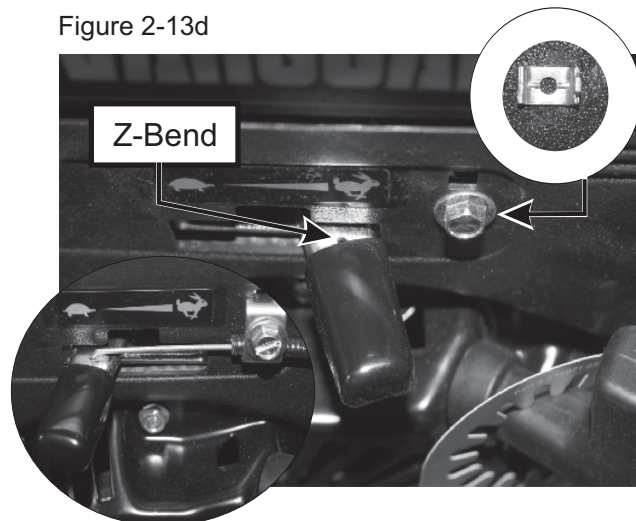

Figure 2-13d
**6.5 Vanguard:** To fasten the throttle cable end to the engine, place the throttle control lever into the “slow” position. Rotate the engine throttle lever to the “slow” position. Remove screw on the engine next to the “fast” position. Attach the throttle cable sleeve clamp, oriented with bent tab up and facing the engine, using the 10-32 x 3/4” HHFS provided in the engine hardware. Insert “Z” bend into the hole on the throttle lever. Clamp the throttle cable sleeve to the engine and tighten (Figure 2-13d). Rotate the throttle control lever into the “fast” position to check for proper installation.